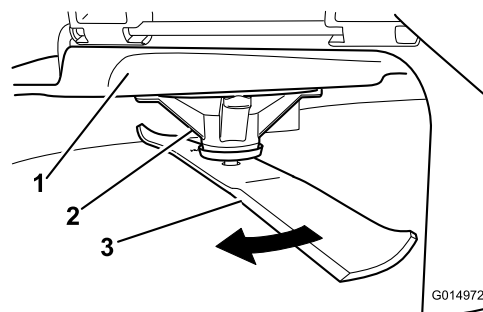

Figure 48
2. While wearing thickly padded gloves, or other adequate hand protection, slowly rotate the blade into a position that allows you to measure the distance between the cutting edge and the level surface the machine is on (Figure 48).